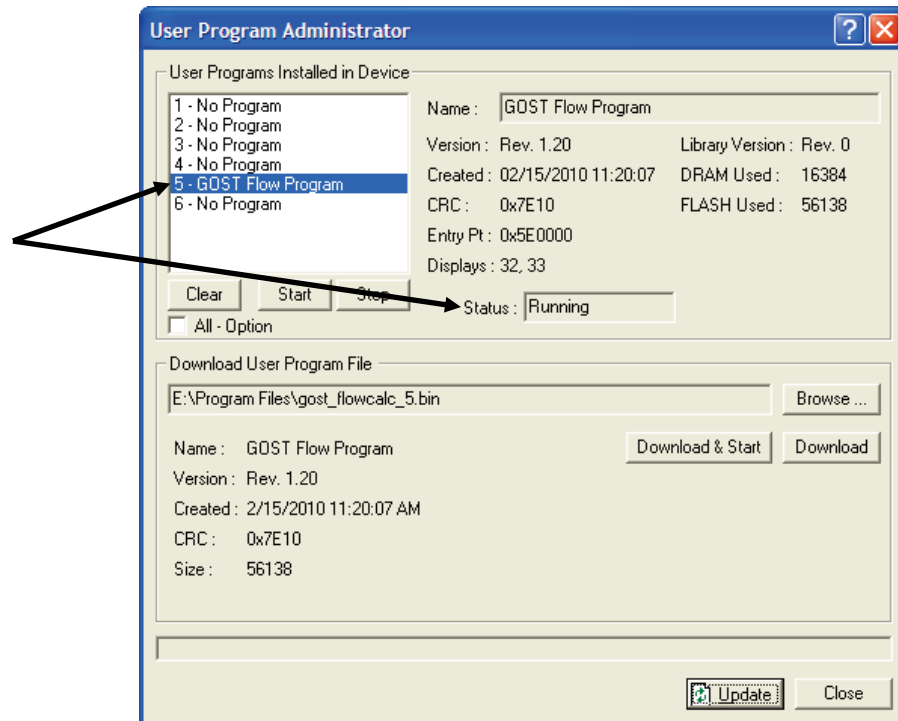

Figure 2-8. User Program Administrator
9. Click **OK**. The User Program Administrator screen displays (see Figure 2-8). Note that: